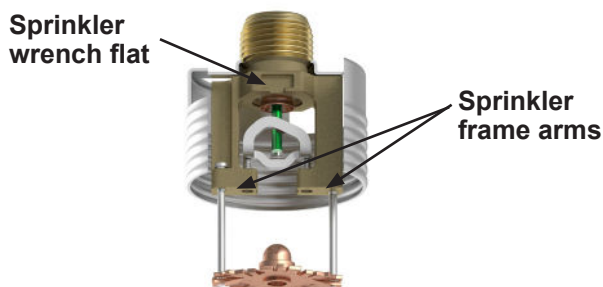

Figure 1: Sprinkler Installation and Proper Wrench Usage
- Accepted Cover Plate Finishes are: Polished Chrome, Brushed Chrome, Bright Brass, Antique Brass, Brushed Brass, Brushed Copper, Painted White, Painted Ivory, or Painted Black. Other paint colors are available on request with the same listings as the standard finish colors. Listings and approvals apply for any paint manufacturer. Contact Viking for additional information. Custom colors are indicated on a label inside the cover assembly. Refer to Figure 1.